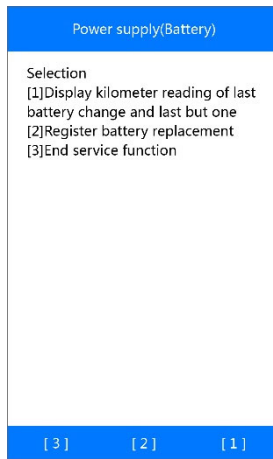

Figure 5-54 Sample Register Battery Replacement screen
1) From Figure 5-54, press **[2]** to continue.